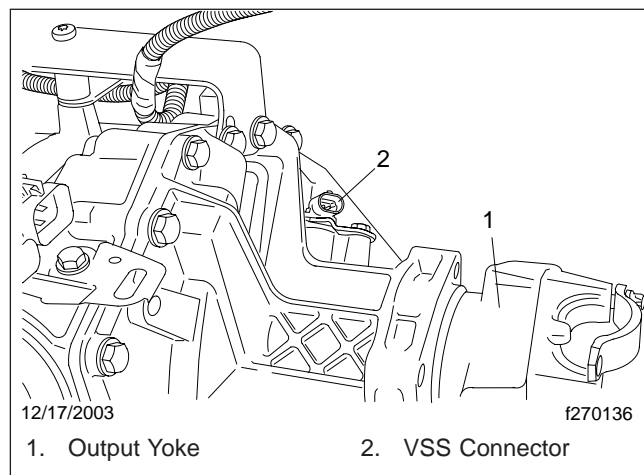

**Fig. 4, Fluid Cooler Lines**
6. Disconnect the transmission fluid cooler lines from the transmission and drain the remaining ATF into a suitable container. See Fig. 4. Cap the fittings to prevent entry of foreign matter.